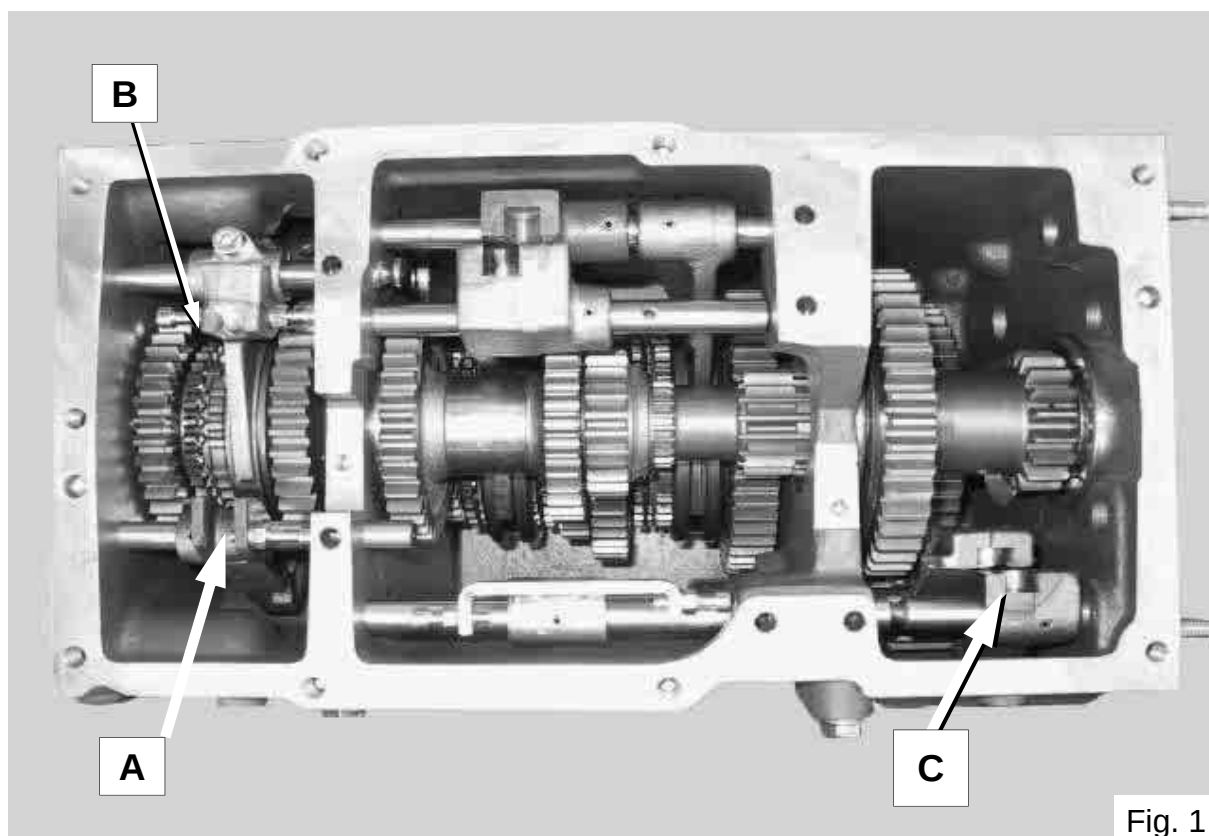

Fig. 1
The free travel of the pedal must be 30 mm. The total pedal travel is 130 mm (fig. 1).
- unscrew the adjuster screw **1** (fig. 1) to lengthen the free travel, tighten the screw to shorten it;
With reference to (fig. 1), the selectors indicated with the letter **C** are positioned as shown in the figure for machines with side levers (reduction gear lever near to the lh mudguard and gearshift lever under the fixed bonnet).
Gear Z 29 di (fig. 2) is controlled by fork **A** of (fig. 1). The reverse shuttle is selected when it is in position 5 while the –20% option is selected when it is in position 3.
Fork **B** of (fig. 1) selects the –20% option or the reverse shuttle, depending on the position of fork **A**.